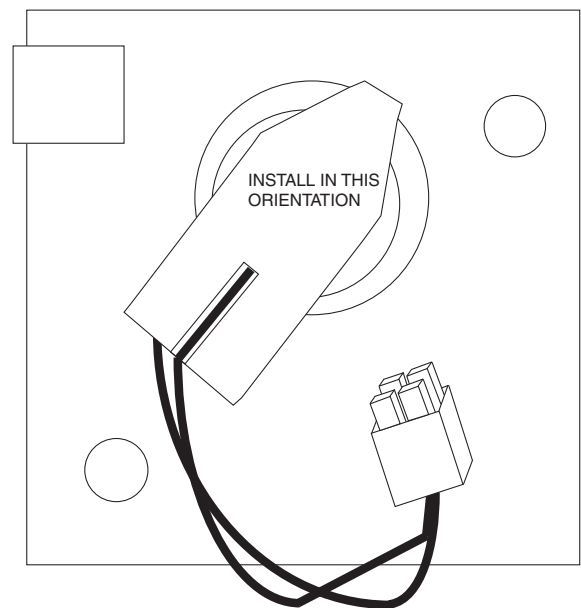

Fig. 64 — Compressor Motor Sensor Harness Installation
1. A new S1-S2 thermistor wiring harness is shipped with the CoreSense kit and must be used. The wiring harness connector block should be fully inserted on the three pins in the orientation shown in Fig. 64 for proper operation.